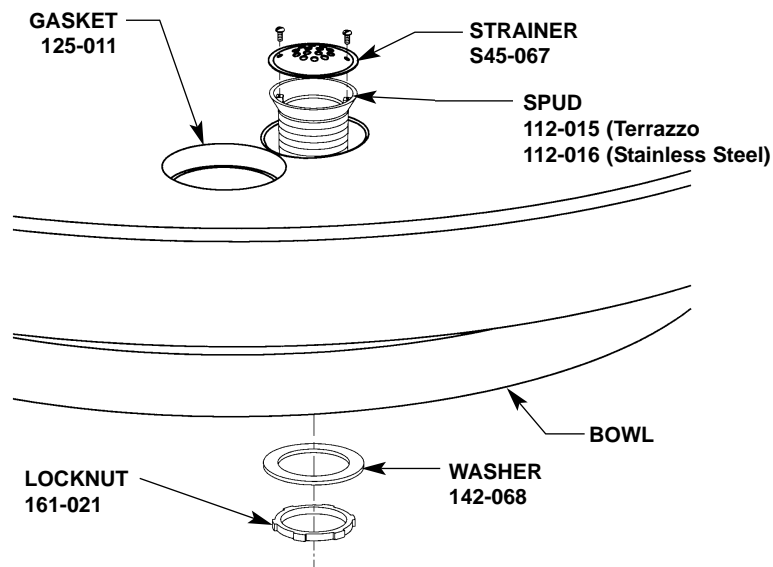

Figure 6
3. Position the bowl and pedestal assembly so that the bowl drain is in line with the trap or drain line (see Figure 5 at right and figure 6 on page 10).
4. Screw the drain spud part of the way into the drain to ensure correct alignment (see Figure 6 on page 10).
3. Screw the drain spud part way into the drain to ensure correct alignment (see Figure 6).
1. Secure drain spud with lock nut and washers as shown in Figure 6.